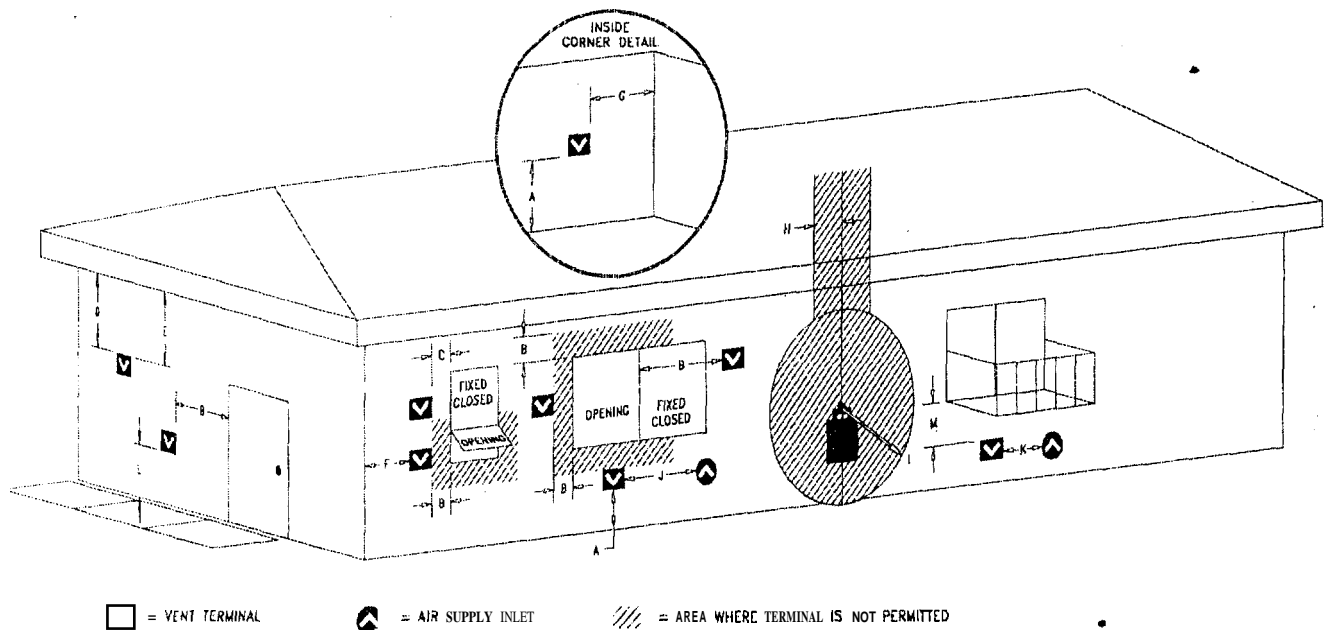

FIGURE 3: Exterior Vent Locations
2. Locate position where vent pipe will pass through any ceilings and will penetrate the outside wall. Since vent pipe sections "overlap" we suggest pre-assembling and measuring the total vent pipe run so you can more accurately locate the point where the vent pipe will penetrate the outside wall. (See FIGURE 3: Exterior Vent Locations, pg.8). Be sure all vent components are properly twist locked and leak-proof. Be sure 2000° silicate sealant (Millpak #65-06-00909) is used in the inner joints of all pipe sections (Dura Vent only).